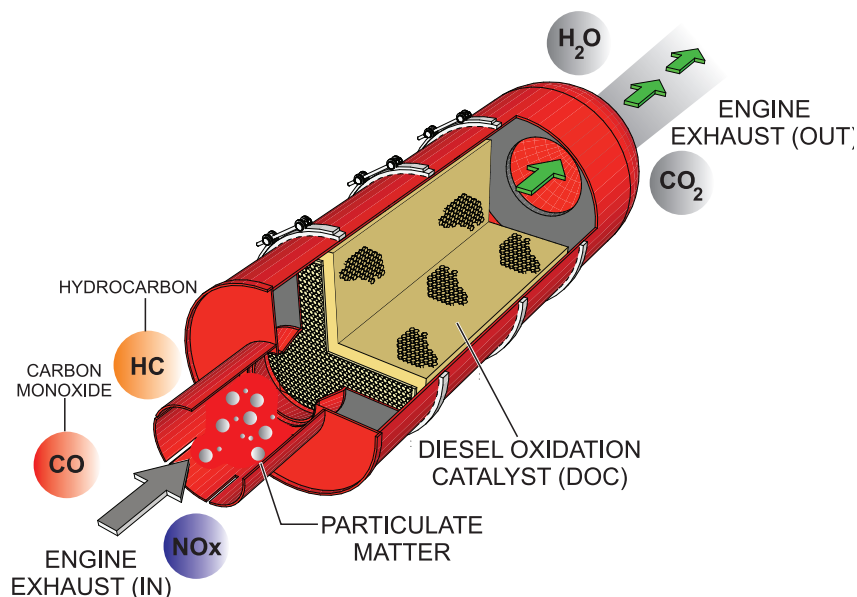

Figure 79. Diesel Oxidation Catalyst (DOC)
The DOC device (Figure 79) helps in filtering out large amounts of harmful nitrogen oxides (NO_x) and particulate matter (PM) which are emitted by diesel engines. These exhaust emissions pose serious environmental and health risks. It is important to maintain and service the DOC emission safety device on a periodic basis.